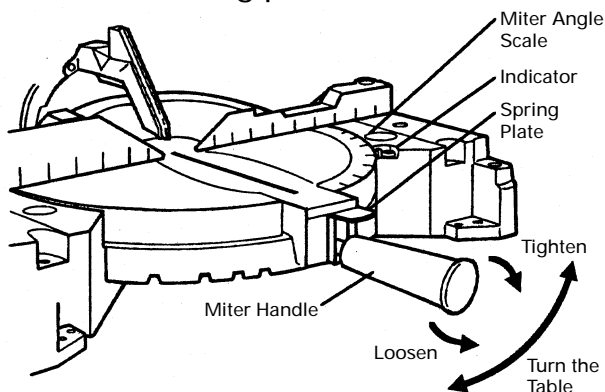

Fig. 22
- (1) Loosen the miter handle and push the spring plate.
- (2) Adjust the table until the indicator aligns with the desired setting on the miter angle scale as shown in Fig. 22.
- (3) Re-tighten the miter handle to secure the table in the desired position.